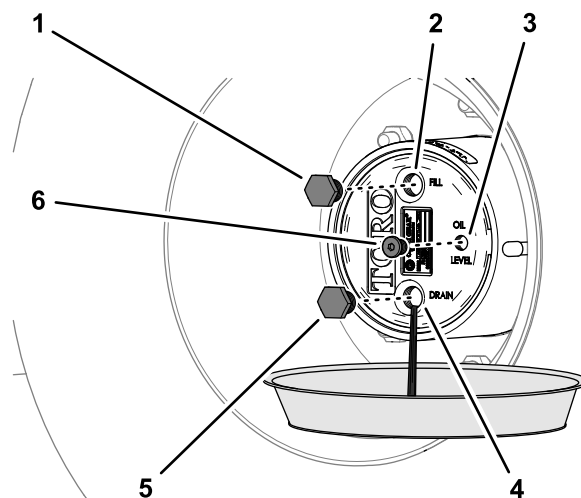

Figure 99
2. Place a drain pan under the hub of the planetary-gear drive, remove the drain plug, fill plug, and the check plug, and allow the lubricant to drain completely (Figure 99).